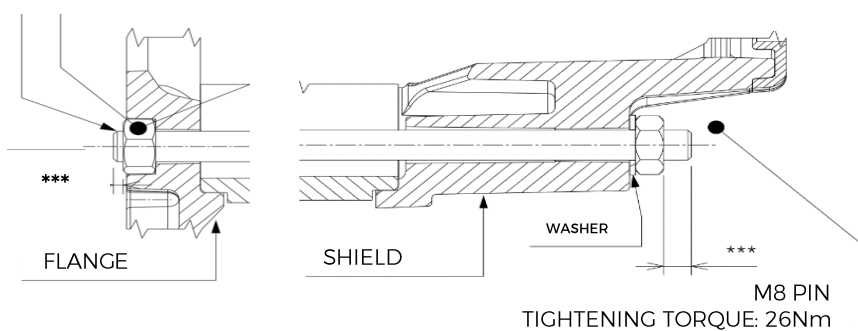

Figure 6-6
10. Check the final protrusion *** of the tie rod on the SAE flange side: it must be in the range 1.5 to 3mm, as shown in figure 6-6.